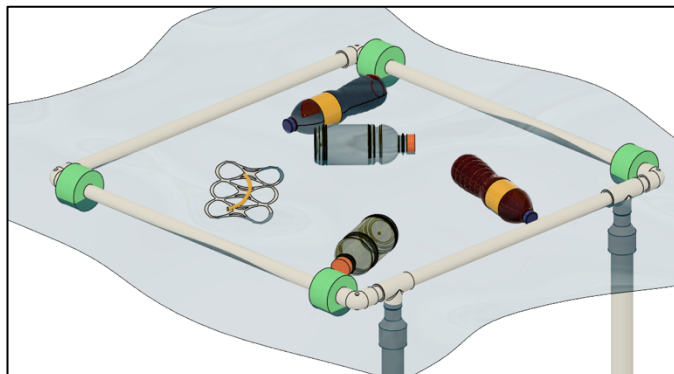

Figure 10 – The Garbage Patch setup
- b. The Garbage Patch must include two 16-20oz water bottles, two 12oz small sports drink bottles, and a plastic 6-pack drink ring (See *Figure 10*). These debris objects are described in detail in the Marine Debris Objects guide available in the Resources section of the [2021 SeaPerch Competition webpage](https://www.seaperch.org/2021-competition-webpage).